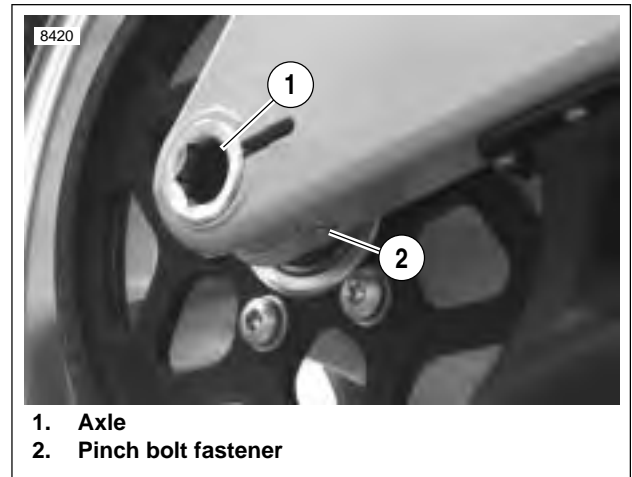

**Figure 6-100. Anti-Seize Lubricant Location**
14. See Figure 6-100. Coat the axle with ANTI-SEIZE LUBRICANT.